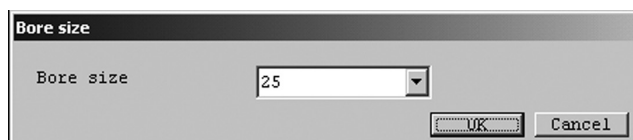

Fig.37
- ① Click on "Setup (S)" at top-level menu, select "Bore Size" from "Caries sensor" drop-down list, and click on again.
② A message box as shown in Fig. 37 appears. Bore size is set at this window.